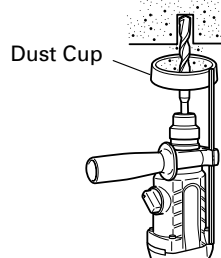
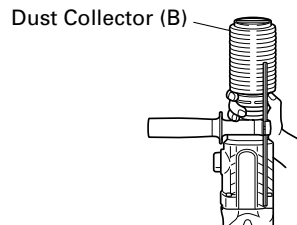

Fig. 4
Fig. 5
7. Installation of dust cup or dust collector (B) (Optional accessories) (Fig. 4, Fig. 5)
Use the dust cup by attaching to the drill bit as shown in Fig. 4.
When using dust collector (B), insert dust collector (B) from the tip of the bit by aligning it to the groove on the grip. (Fig. 5)